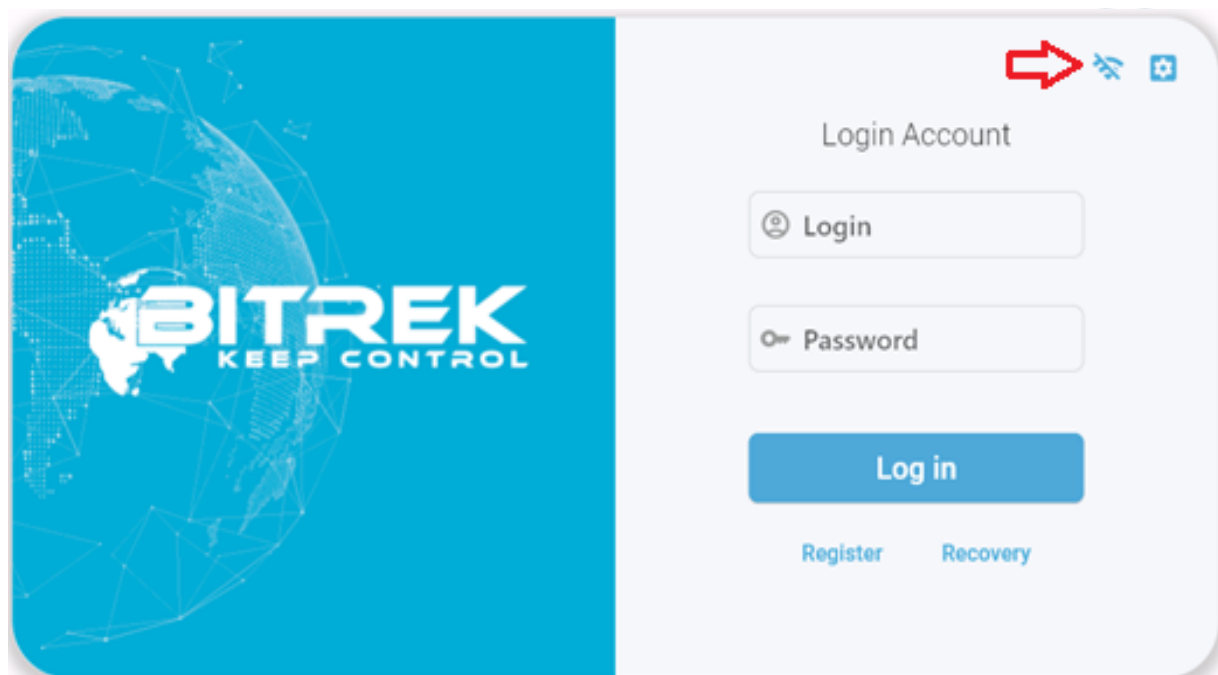

Figure 8. Switch to offline mode
- there is no Internet access on the PC. To get the ability to connect to the tracker without the ability to log into the account, you need to click the "Offline mode" icon at the authorization stage (figure 8).